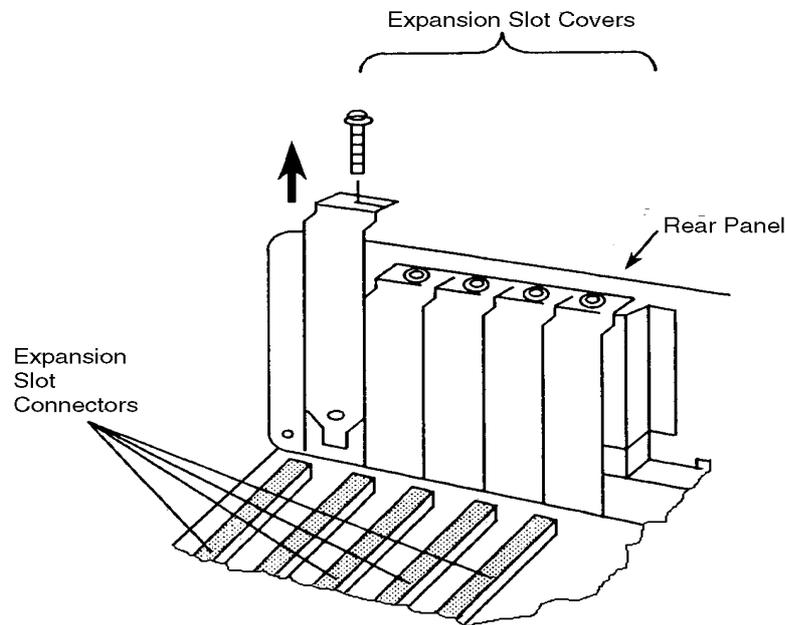

Figure 2.12 Removal of expansion slot cover.
5. Remove the screw securing the cover of the expansion slot in which the Interface card is to be installed and slide the expansion slot cover out of the PC frame, (Figure 2.12) Save this screw for securing the Interface.